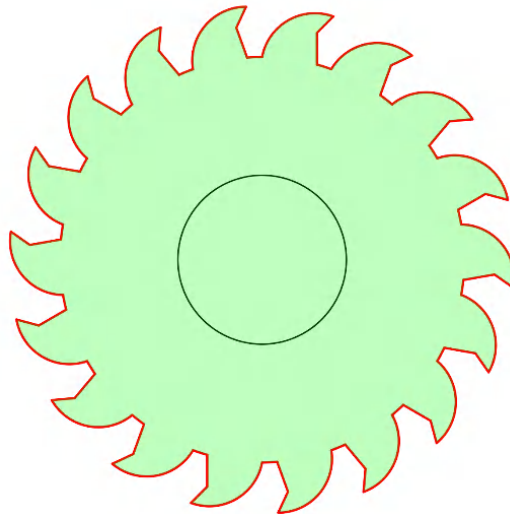

Figure 6.7: The saw teeth closed polyline selected as an added area
5. Select the saw teeth. They are a closed polyline, so they will be selected as one object. They will highlight green, showing the area added, as shown in *Figure 6.7*. Press *Enter* to confirm the selection.